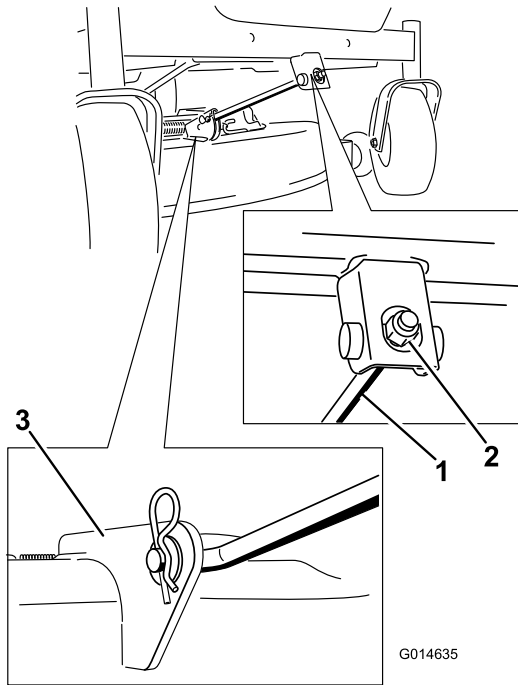

Figure 64
4. Remove the hairpin cotter from the front support rod, and remove the rod from the deck bracket (Figure 64).
6. Attach the front support rod to the mower deck with the clevis pin and hairpin cotter (Figure 64).